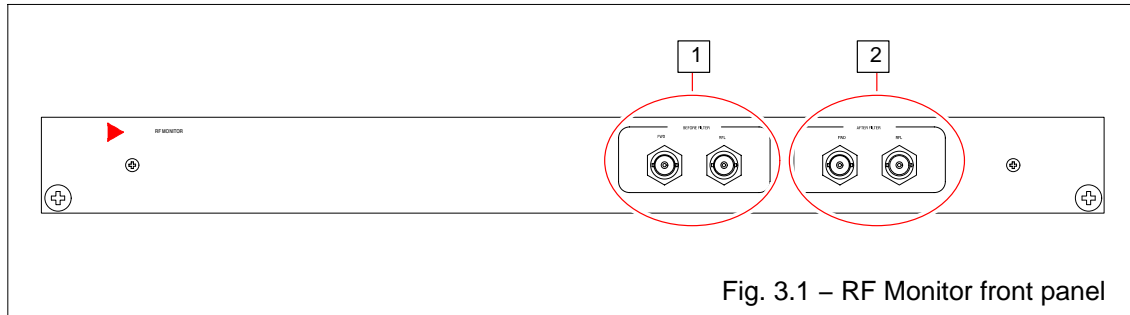

Fig. 3.1 – RF Monitor front panel
- Tab. 3.1 refers to Fig. 3.1 which is the call out of “RF Monitor” front panel
Tab. 3.1 – RF Monitor front panel legend (ref. Fig. 3.1)